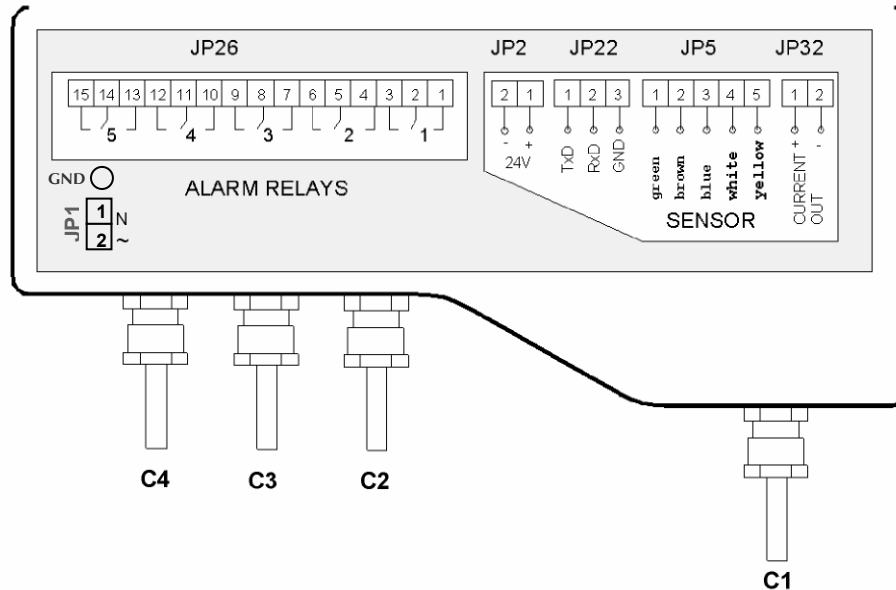

Figure 11: Electrical Unit using glands/conduits
- 2 Connect the relay cable wires to the appropriate posts, as shown in Figure 11: Electrical Unit, page 28.